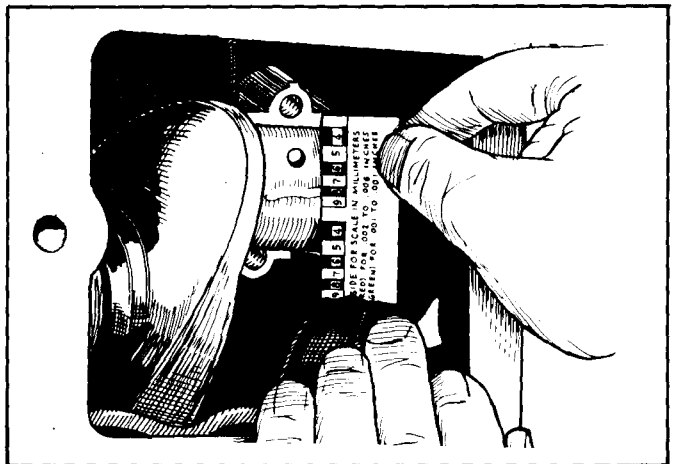

FIGURE 19. MEASURING BEARING CLEARANCE
2. Place a piece of correct size Plastigage in the bearing cap the full width of the crankshaft rod surface about 1/4 inch off center (Figure 19).